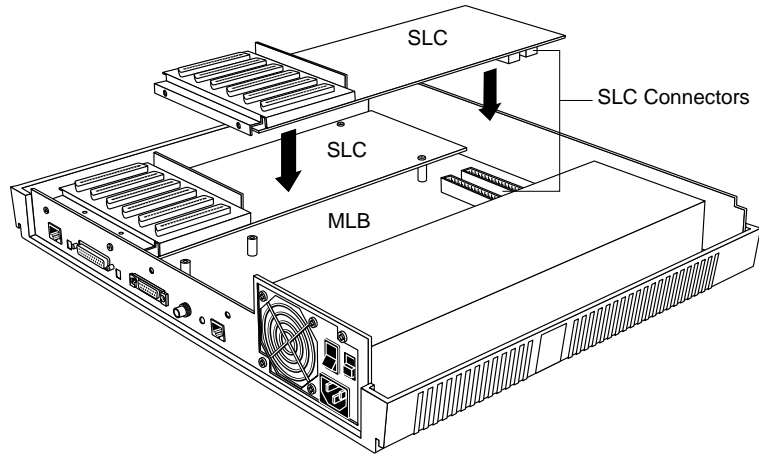

Figure C-5. Lowering the SLC onto the MLB
- 1 Lower the SLC onto the MLB; keep the SLC horizontal (see Figure C-5).